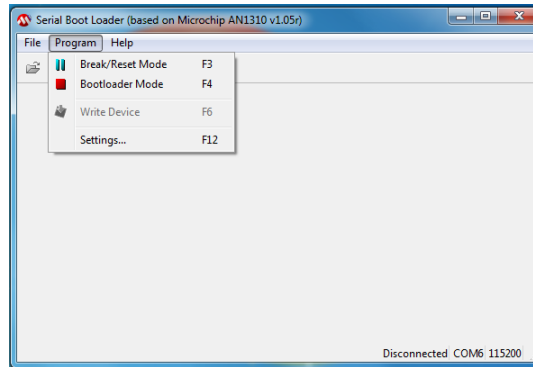

Figure 11. Program menu
5. Open Settings from Program menu (Figure 11).